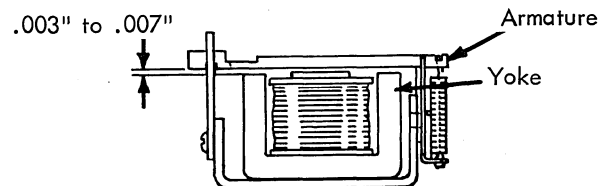

FIGURE 17.3 Armature Stop
3. Armature Stop (Late Style)- With the armature manually attracted, adjust armature stop for a clearance of .003" to .007" between the armature and yoke (Fig. 17.3).